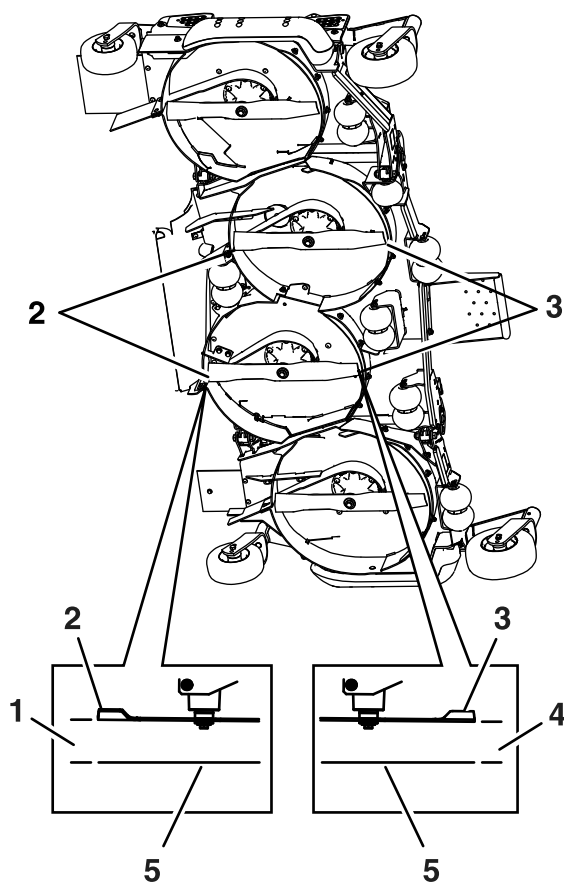

Figure 75
10. Measure from the level surface to the front tip of the left and right center deck blades (Figure 75).